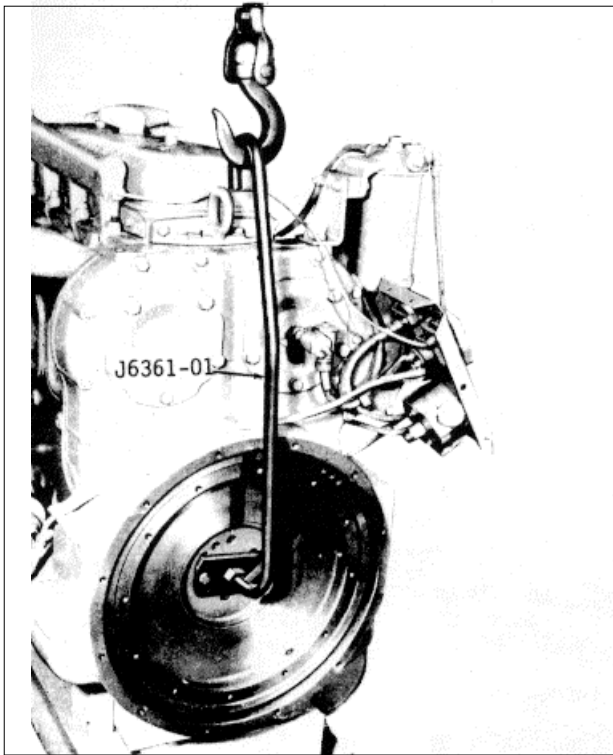

Fig. 3
- (2) Attach flywheel lifting tool J 6361-01 to the flywheel with two 7/16"-14 bolts of suitable length or use tool J 25026. Remove the remaining flywheel attaching bolt.
- (3) Attach a chain hoist to the lifting tool to support the flywheel as shown in Fig. 3.
- (4) Move the upper end of the lifting tool in and out to loosen the flywheel, then withdraw the flywheel from the crankshaft and the flywheel housing.
- (5) Remove the clutch pilot bearing, as outlined in SM6-5-17.0.